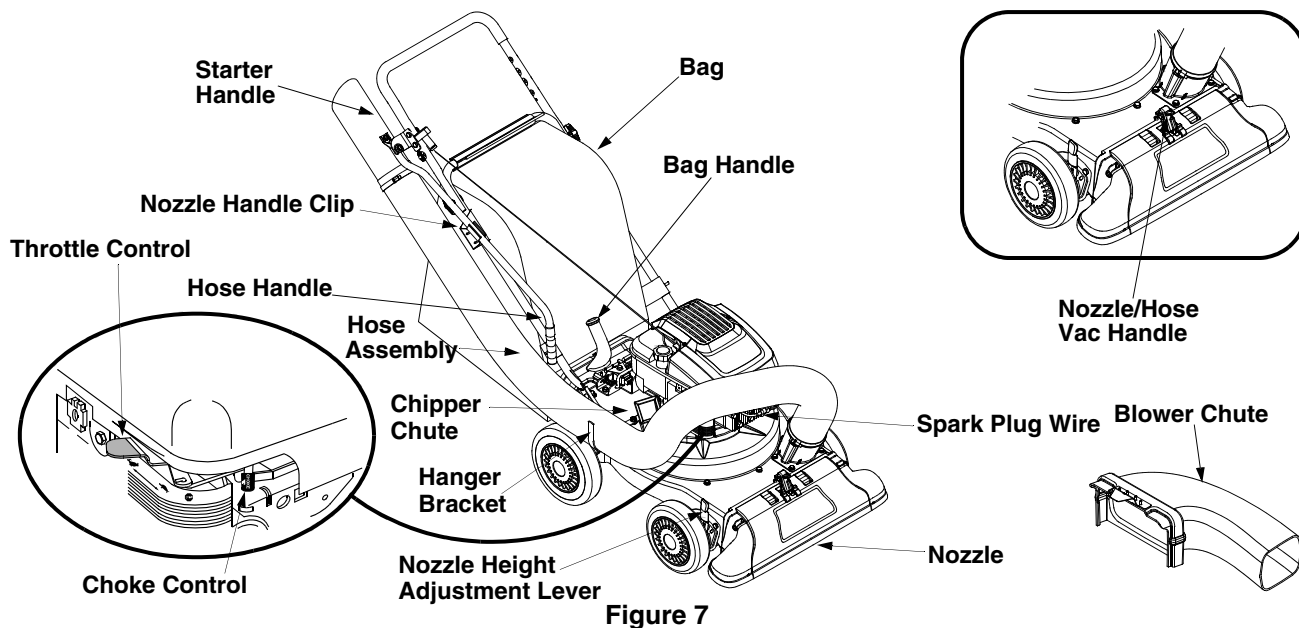

Figure 7
- Connect the hose handle near nozzle end of hose to the handle bracket on the upper handle. Refer to Figure 7.
- Snap hose handle into the nozzle handle clip on the lower handle to secure in place and lay hose tubing on side hanger bracket next to chipper chute. Refer to Figure 7.
OPERATING CONTROLS (See Figure 7)